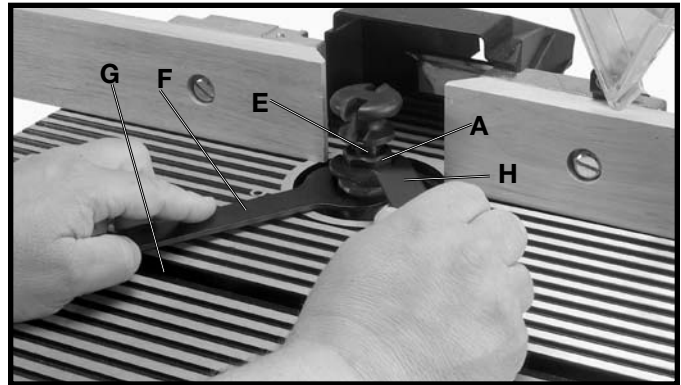

Fig. 29
5. Clean and insert shank of router bit (E) Fig. 29, into collet (A) or adapter sleeve until it bottoms, then back out router bit approximately 1/16 inch.
6. Place wrench (F) Fig. 29, on flats of spindle assembly to keep spindle from turning during router bit installation.
NOTE: Spindle wrench (F) Fig. 29, features a round protrusion on one side that makes installation easier. With the open end of wrench (F) Fig. 29, on the flats of the spindle, rotate the wrench until the protrusion slides into the miter gage slot (G) as shown. Place the other wrench (H) on flats of the collet and turn wrench clockwise to tighten router bit in spindle assembly. **CAUTION: Table ridges may be sharp. To avoid personal injury, we suggest that wrenches (F) and (H) supplied with your machine be used when installing and removing router bits.**